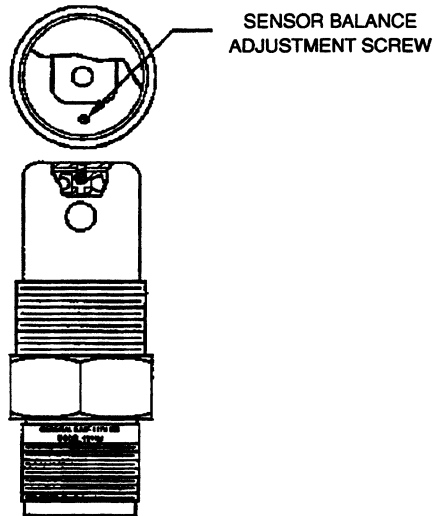

Figure 6 – 1111H Sensor Balance Adjustment Screw Location
5. A vertical LED light bar indicates balance status. Either 3, 2, 1, or zero horizontal bars will be lit. Locate the Balance, or Bias, adjustment screw at the top of the sensor. See Figure 6. Using the small screwdriver supplied in the maintenance kit, slowly rotate the screw until only the bottom bar is illuminated. (The